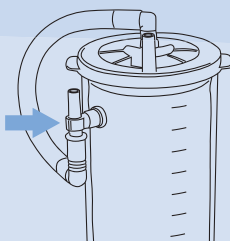

Fig. 5
3. Attach the pre-mounted connecting hose "A" of the disposable "Liner" to the bottom end of the T-valve of the external rigid container as shown in Fig. 5